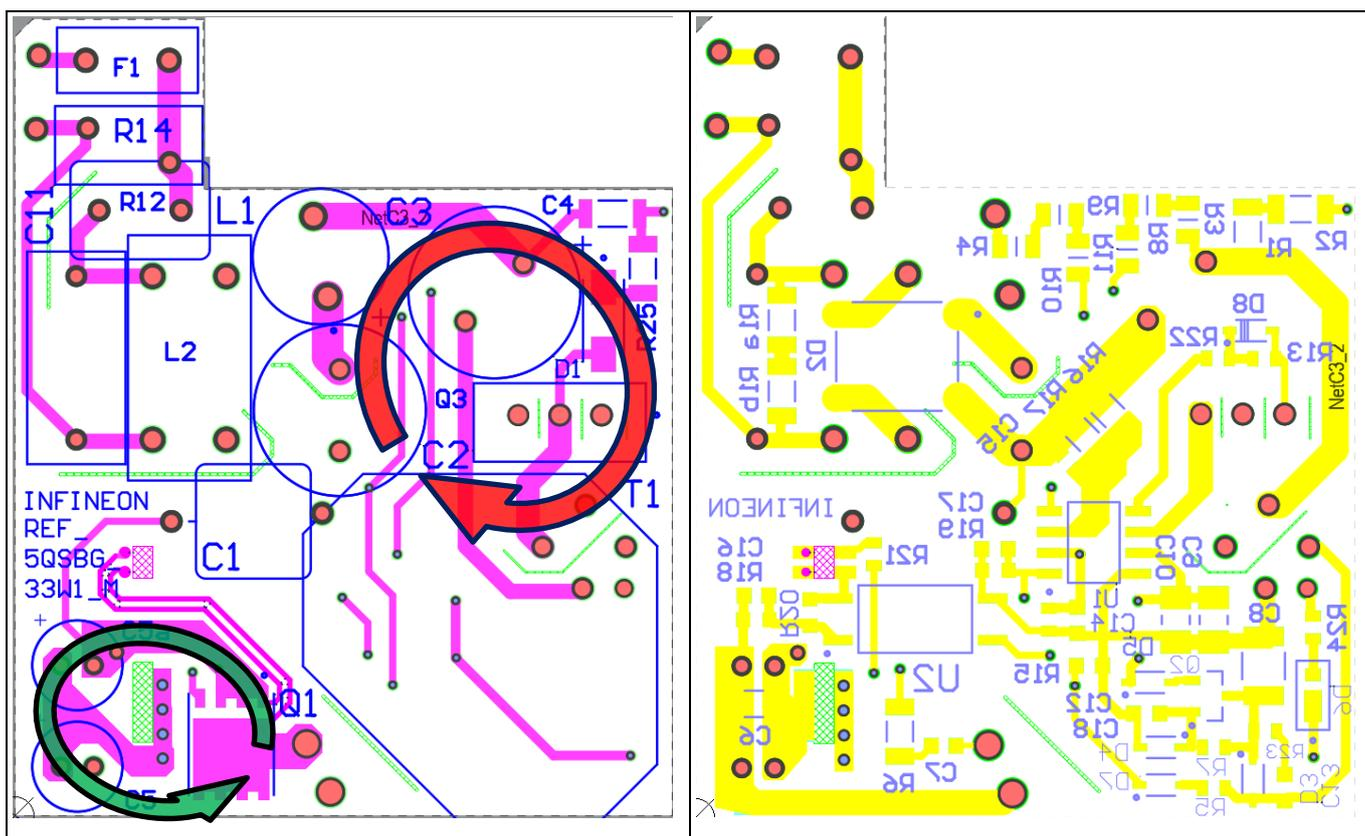

Figure 7 PCB layout tips
- The switching power loop needs to be as small as possible (see Figure 7). There are two power loops in the reference design: one on the primary side and one on the secondary side. The primary-side loop starts from the bulk capacitor (C2/C3) positive terminal, primary transformer winding, primary MOSFET Q3, QR controller, CS resistors and back to the C4 negative terminal. The secondary-side loop starts at the secondary transformer winding, output capacitor C5/C5a, SR MOSFET Q1 and T1.